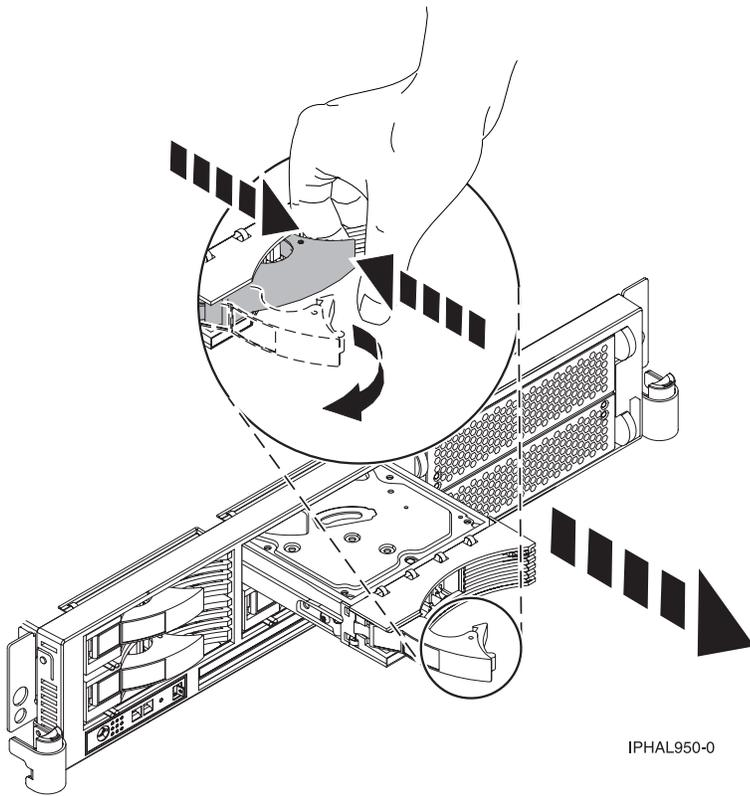

Figure 81. Removing a disk drive from a model 51x or 710
7. Squeeze and pull the handle of the disk drive out toward you before you remove the disk drive as shown in Figure 81 on page 82 or Figure 82 on page 82. If the handle is not all the way out, the disk